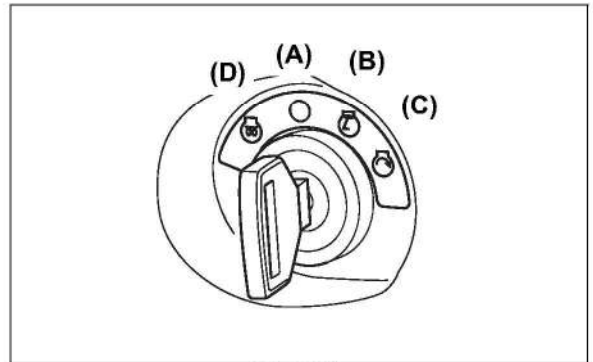

Fig 5-19
#### (2) Starter key switch (Fig 5-19)